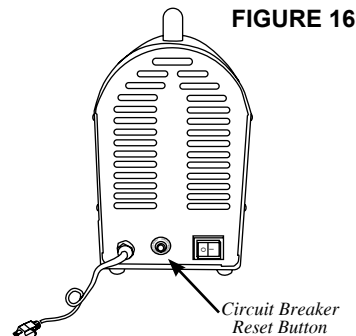

FIGURE 16
2. Press the **Circuit Breaker Reset Button** (Figure 16).